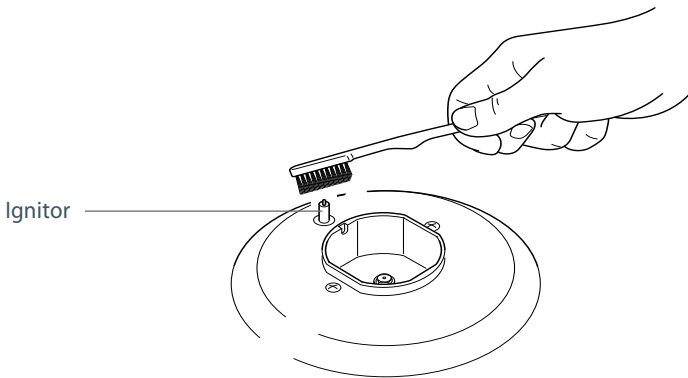

Fig. 33 Cleaning the ignitor
- The ignitors are sparking. If the ignitors are not sparking, they may be dirty or wet. Clean them with a toothbrush and methylated spirits, as shown in Fig. 33.
- Check that the ignitor is always clean to ensure trouble-free sparking. Clean it carefully with a toothbrush and methyated spirits (see Fig.33).